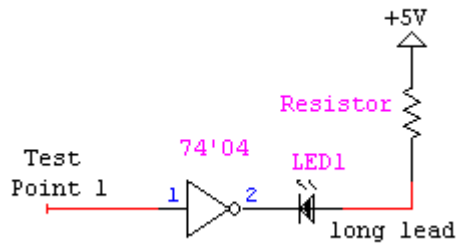
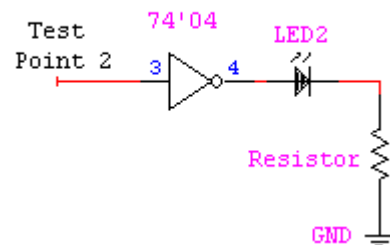

Figure 9: Positive logical probe wiring diagram[2].
Figure 10: Negative logical probe wiring diagram[2].
1. Wire up the circuit shown in *figure 9* and *figure 10*. A resistor value of 1k Ω would be a prudent value to use in both circuits.